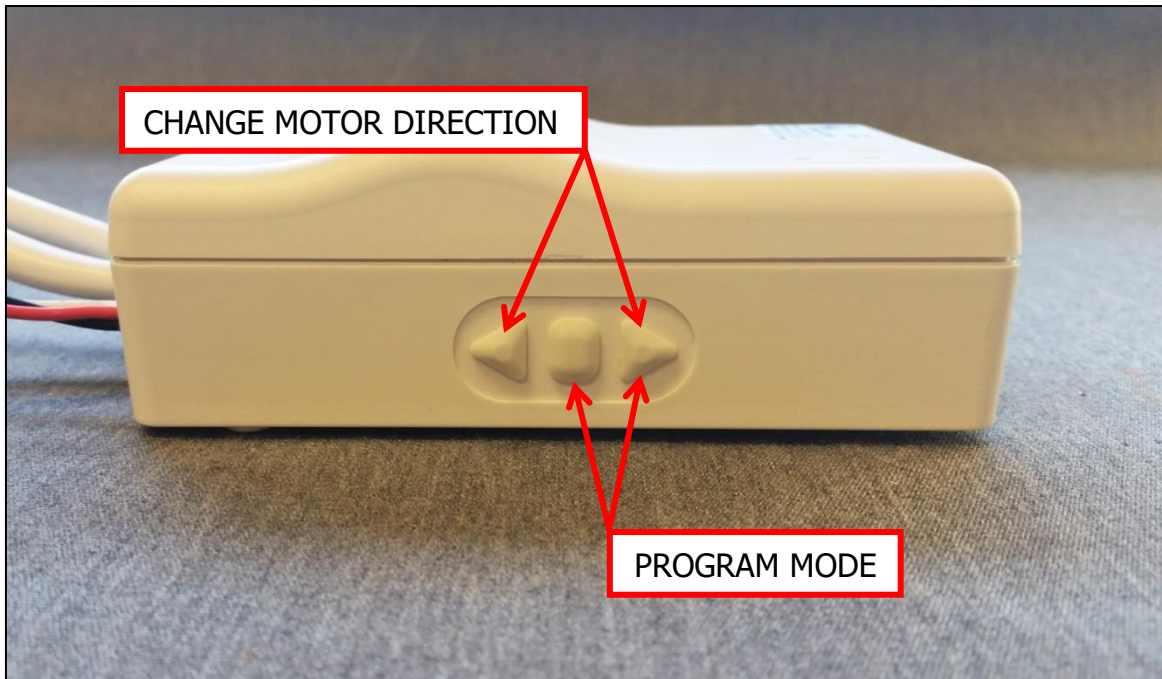

Fig.3
- b. Press and hold the **MIDDLE** and **RIGHT** buttons on the GC274 (Fig 3) for about 3 seconds until the Green LED starts to flash.
- Press and hold the **MIDDLE** and **RIGHT** buttons on the GC274 (Fig 3) for about 3 seconds until the Green LED starts to flash.
- e. Press the Stop button on the Motor controller (see fig.3). The green LED will illuminate continuously.